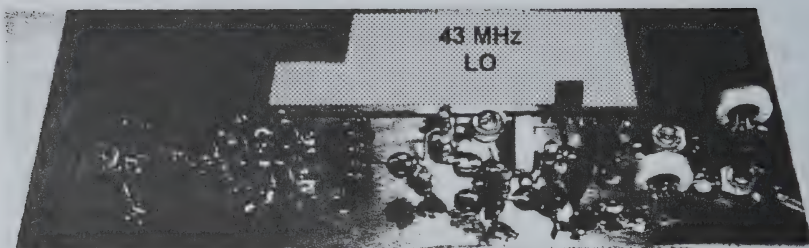

Fig. 14 - Photograph of the finished Receiver Strip construction
For this project, construction begins across the long dimension of the substrate with the receive strip. The area utilized on the prototype was 1 X 5 inches, and is shown as SEQ. #1 in figure A above, the assembly illustrated in drawing SEQ. #1, and a photograph of the receive strip in figure 14. Moving from right to left (when viewed from the back-panel end of the board), one can see the double tuned
The 43 MHz local oscillator (LO) circuitry was then added below the receive strip. (Here is where the board reorientation takes place.) **Figure B** and the shaded area in **figure 14** shows the 43 MHz LO "footprint."